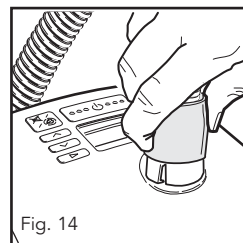
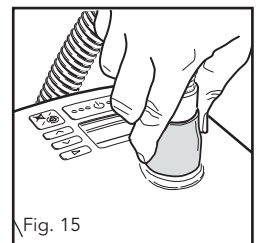

Fig. 14
Fig. 15
8. One end of the heated breathing tube has a blue plastic connector. Lift the sleeve and slide the connector onto the unit. Push the sleeve down to lock in place (Fig. 14 and Fig. 15).